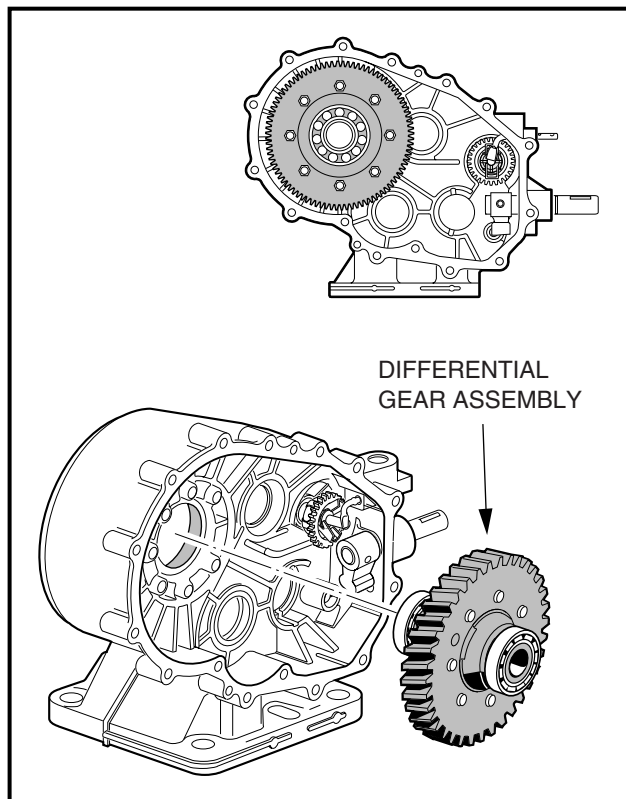

Figure 6-48 Differential Gear Assembly
- 7.1. Stand the left side case on the mounting plate, then install the differential gear case assembly (**Figure 6-48, Page 6-23**). Do not seat the assembly in the bore, instead insert it far enough that it will not fall out.